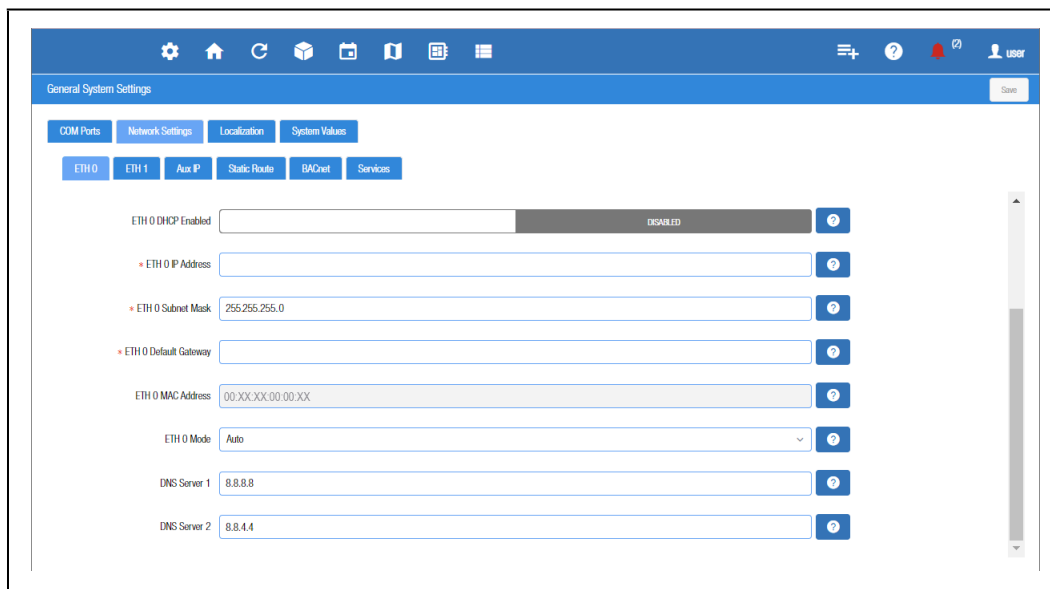

Figure 1-5 - Enter IP Address in the ETH 0 IP Address Field
1. Create a "network.txt" with your desired settings (**Figure 1-5**):